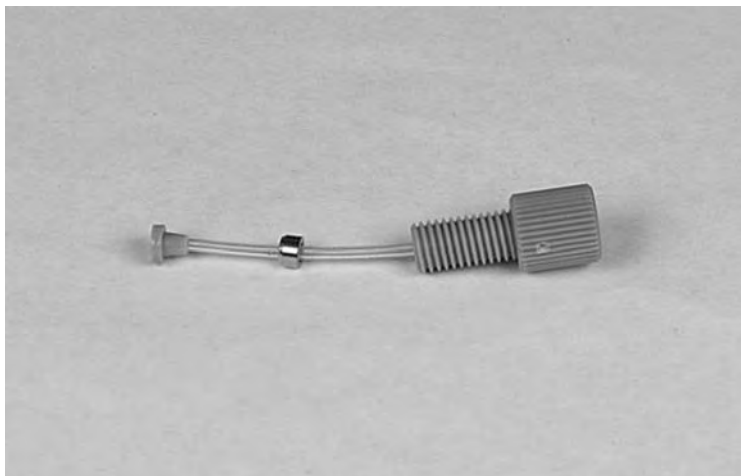

Fig. 13.25. Ferrule and lock ring properly slipped over the tubing.
6. Slip the ferrule over the tubing, with the flat end of the tubing toward the cut end of the tube (Figure 13.25).